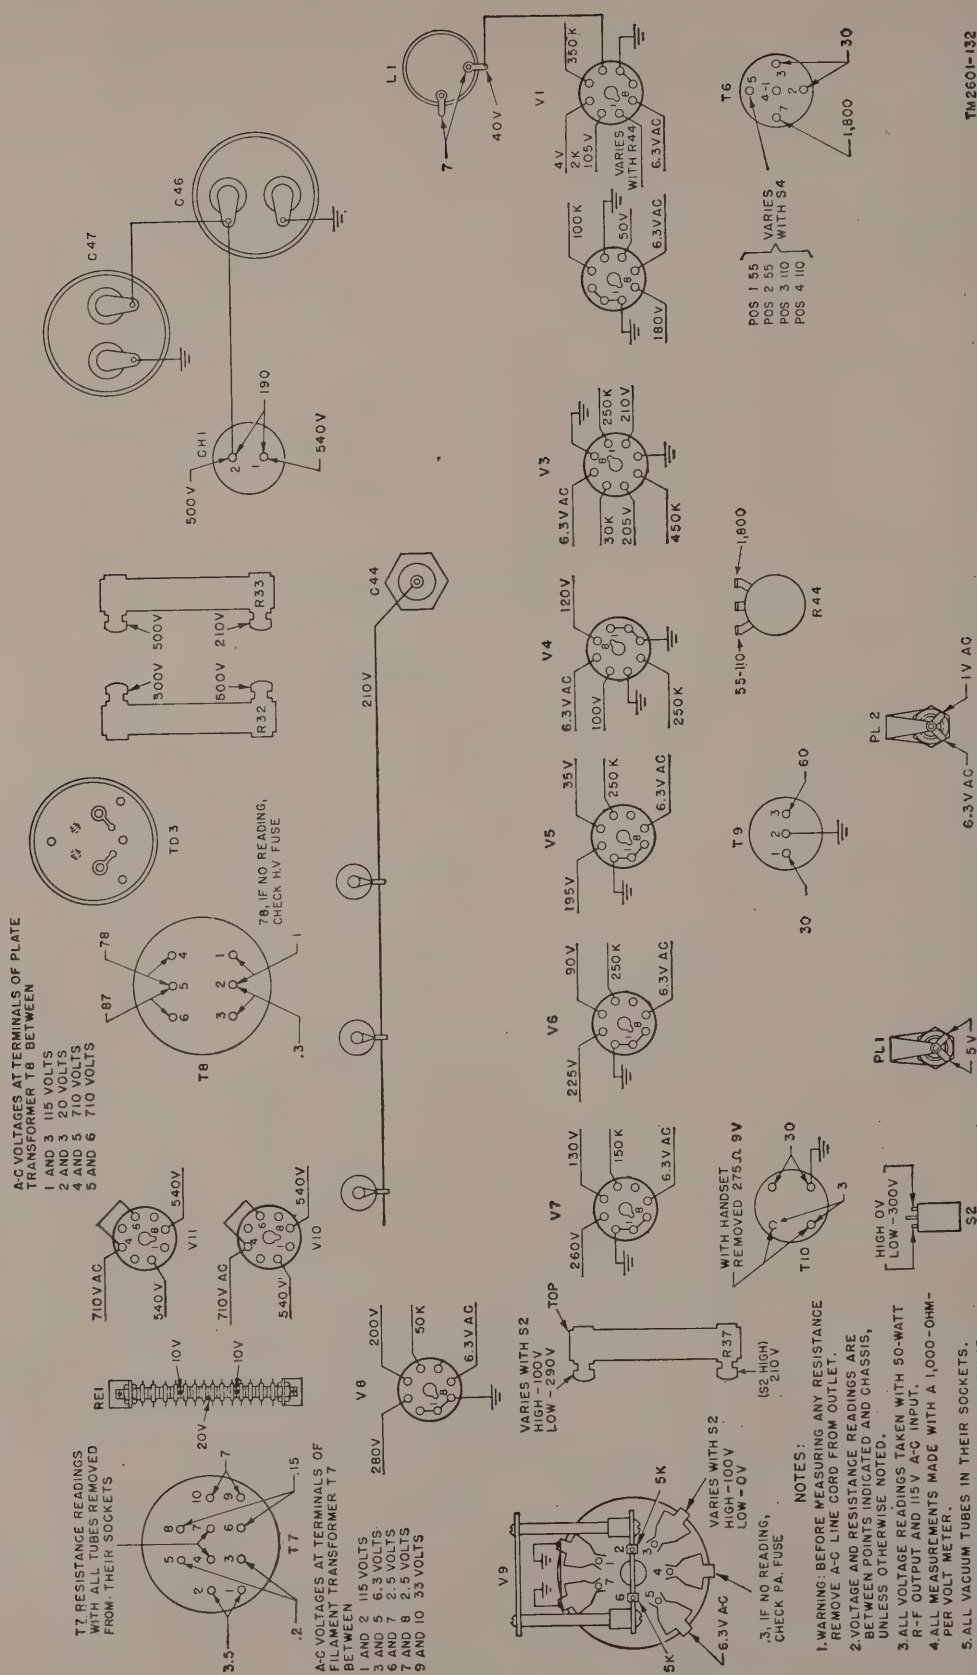

Figure 163. Voltage and resistance diagram of early transmitters.
- (4) If the resistance measures about 12,000 ohms, check V9 for a plate-to-grid short.
- (5) The schematic of the transmitter being worked on should be consulted if the measurements do not match those of figure 163 or 164.